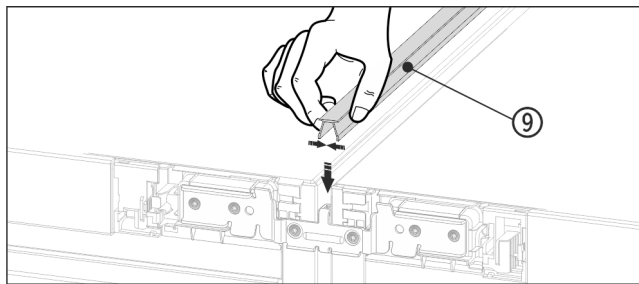

Fig. 19
- On the top press the short cover strip Fig. 19 (9) into the horizontal gap.